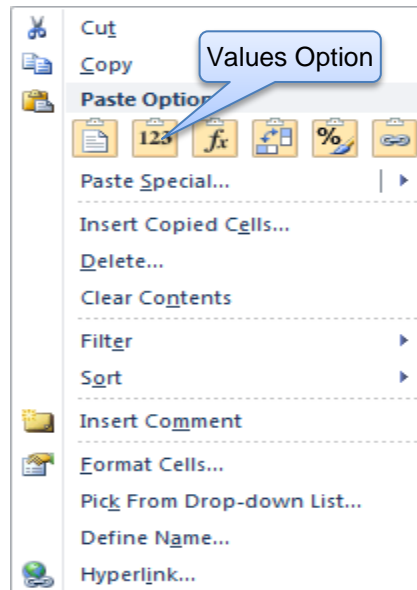

Figure 6-12 Paste Contact Menu
- Right click on the mouse. The context menu seen in Figure 6-12 should appear.